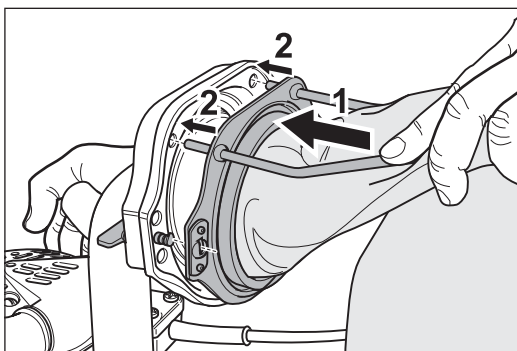

Fig. 5 Push the dust bag over the locating flange (1) and fix it in place with the two metal studs (2).
- 5 Push the dust bag opening over the locating flange to the end of the elbow piece (fig. 5, 1). Fix the dust bag into place using the two metal studs (fig. 5, 2).